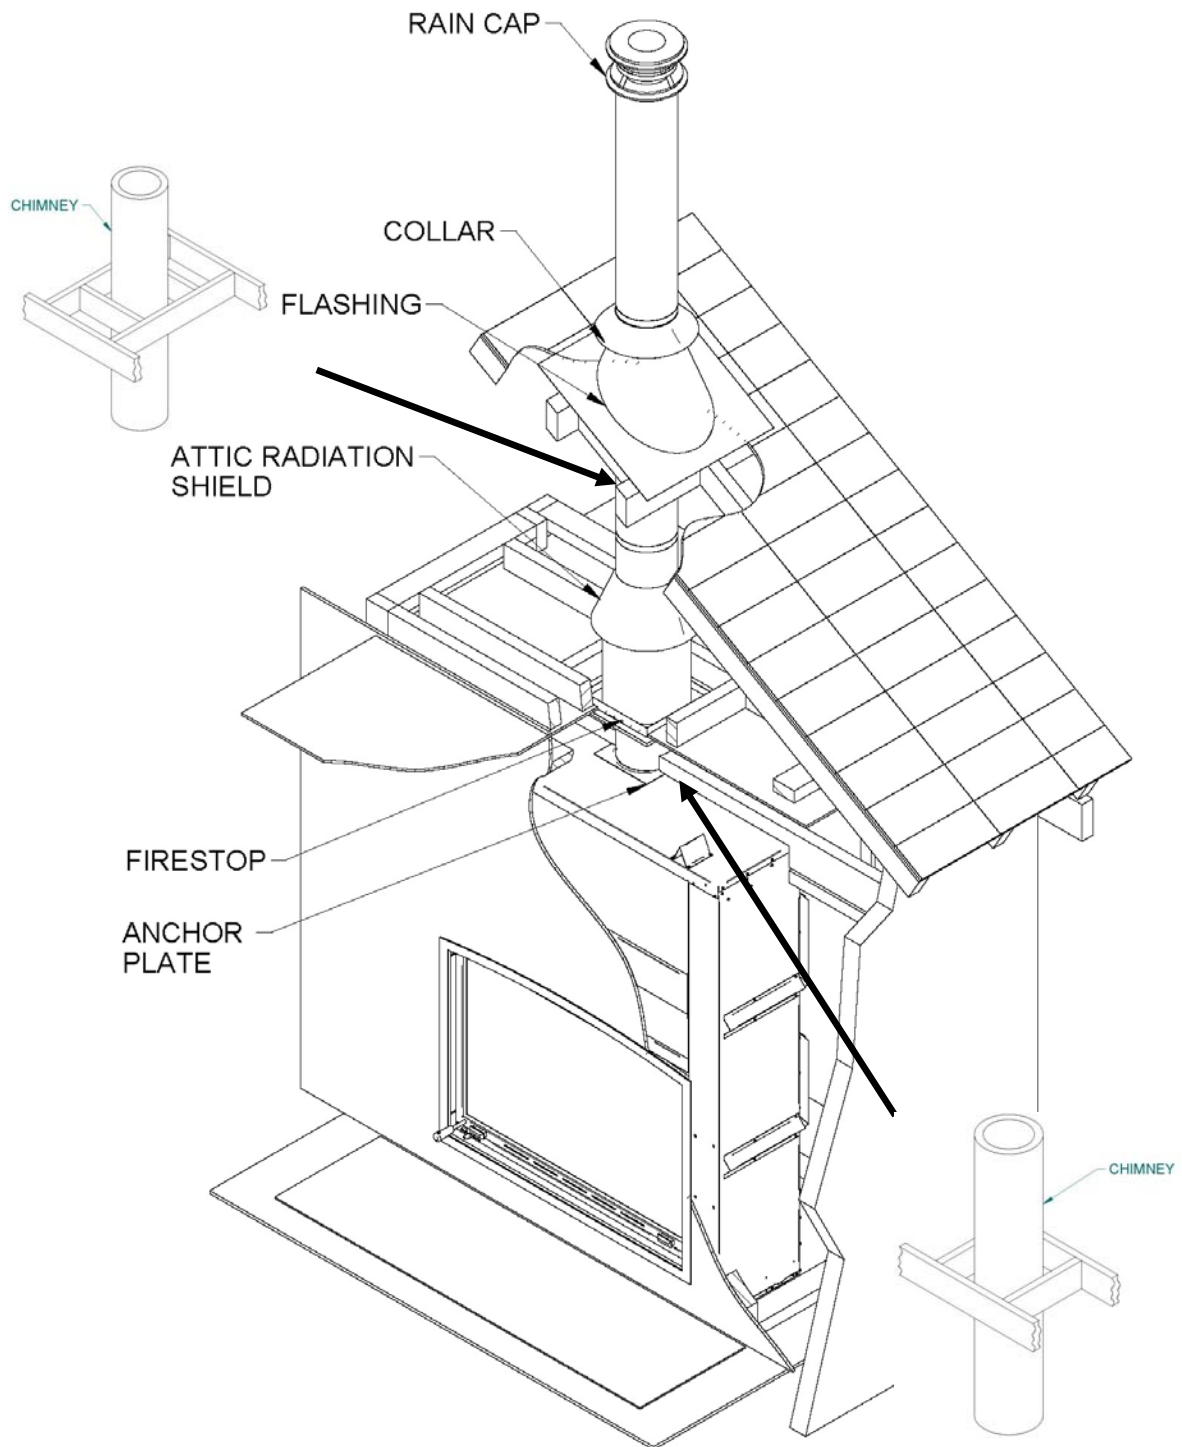

Figure 30
2. From below, install a firestop supplied by the chimney manufacturer in each ceiling/floor separation through which the chimney will pass. At the attic level, install an attic radiation shield from above (see **Figure 30**).
3. Follow the chimney's manufacturer's instructions and place the first chimney length on the fireplace. For all chimneys, you must use an anchor plate supplied by the chimney manufacturer before installing the first chimney length (see **Figure 30**). Continue installing chimney lengths making sure to lock each length in place according to the chimney manufacturer's instructions. In many cases, it is recommended to secure connections with three (3) ½" (12 mm) metal screws.
5. Then, put the roof flashing in place and seal the joint between the roof and the flashing with roofing pitch (see **Figure 30**). For sloping roofs, place the flashing under the upper shingles and on top of the lower shingles. Nail the flashing to the roof, using roofing nails.